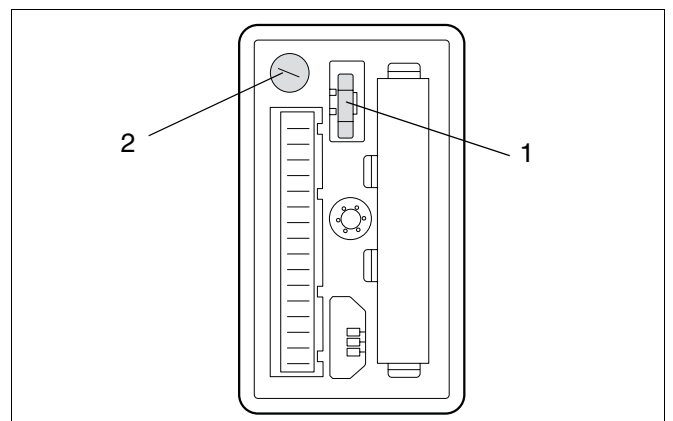

fig. 78 Checking the fuse
- Release the fuse clamp (→ fig. 78, item 2) by turning it to the left with a screw driver.
- Remove and check the fuse (→ fig. 78, item 1).